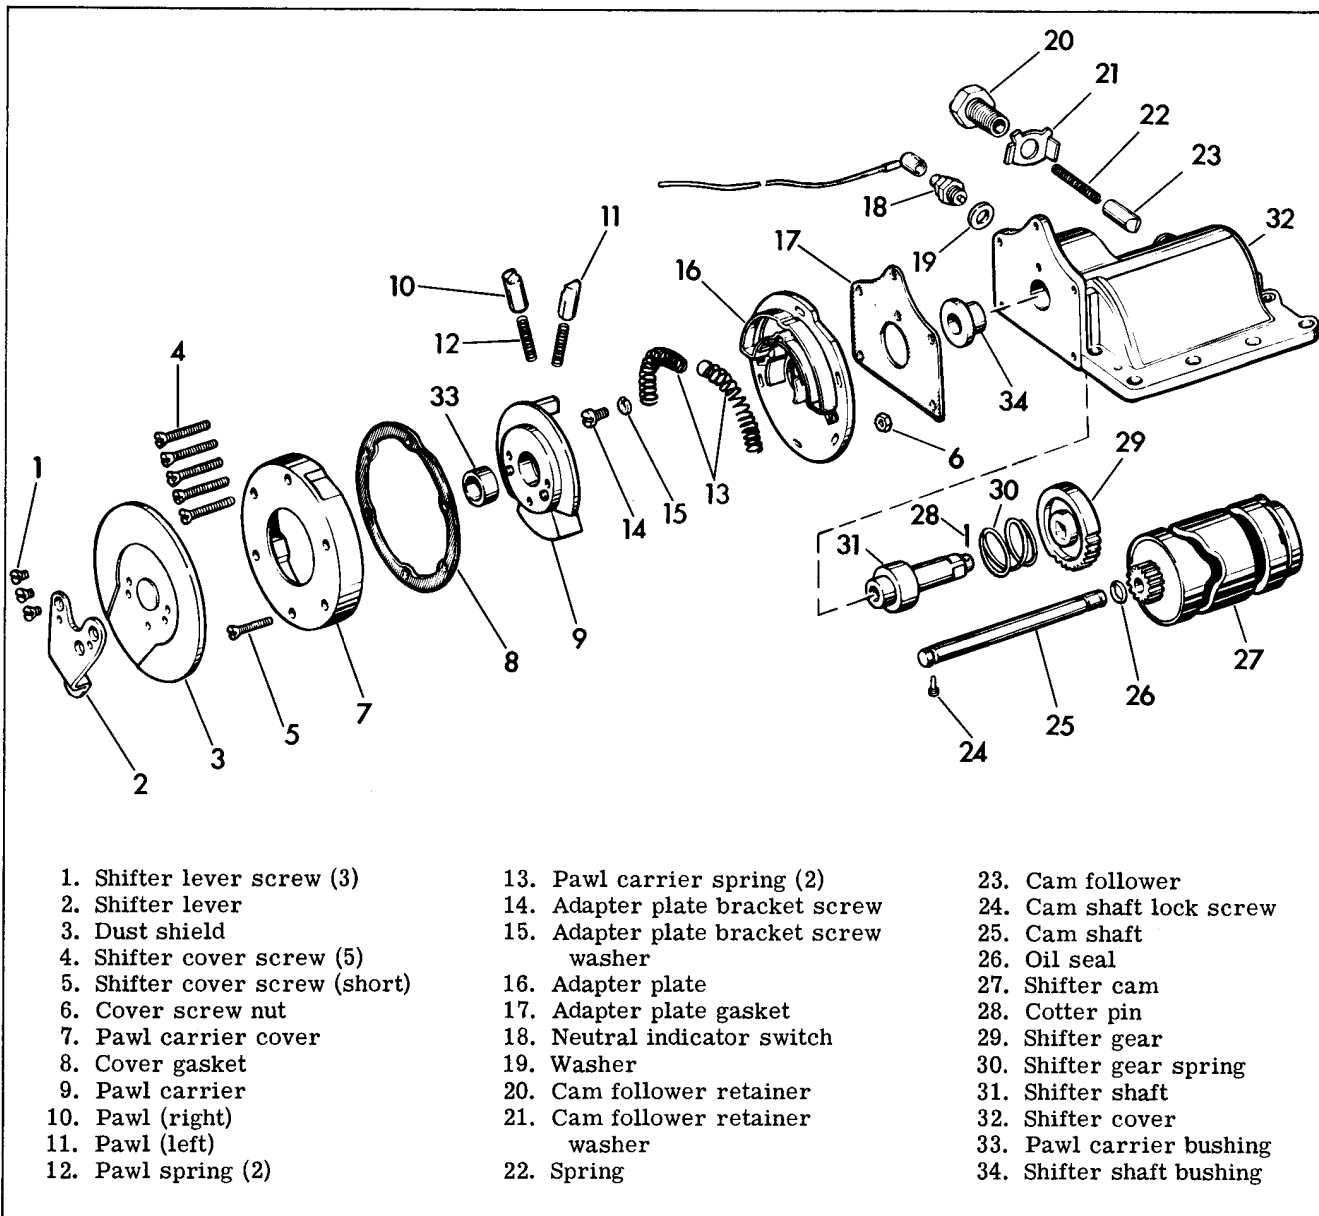

Figure 4-12. Foot Shifter Cover - Exploded View
#### DISASSEMBLING FOOT SHIFT COVER (Figure 4-12)
#### CLEANING, INSPECTION AND REPAIR (Figure 4-12)
#### ASSEMBLING SHIFTER COVER (FOOT SHIFT) (Figure 4-12)
Refer to Figure 4-12. Position shifter gear (29) and spring (30) in case, so side of gear with timing mark